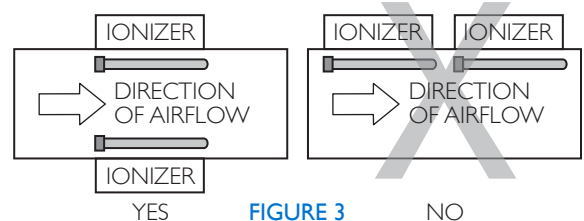

FIGURE 3
5. If multiple units are installed on the same duct, the units need to be installed around the perimeter of the duct so that ionized air from one unit does not pass over a second ionizing unit. See figure 3